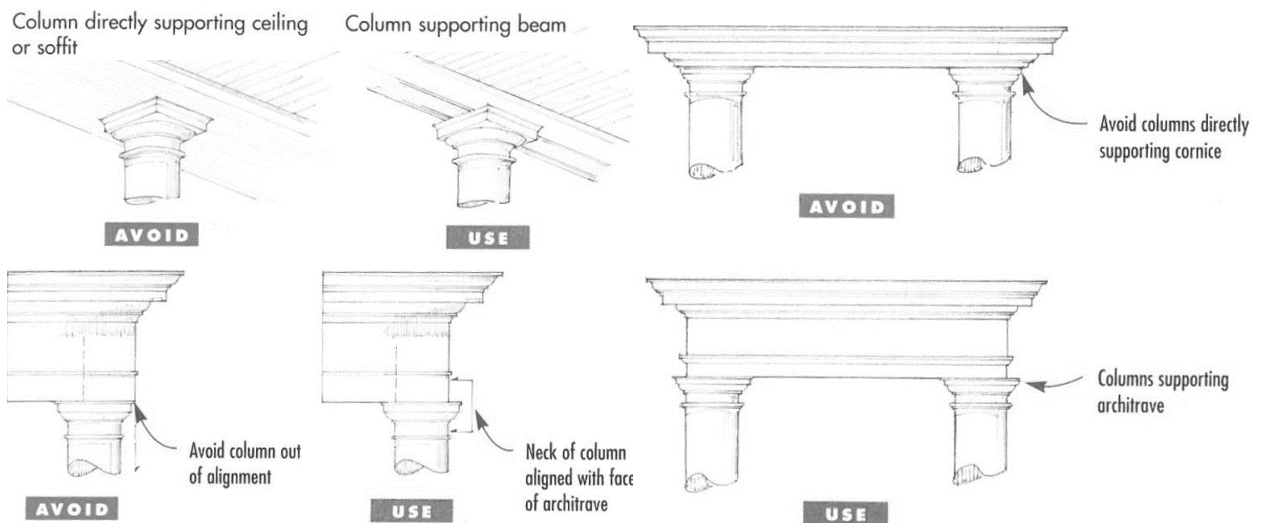

Figure 24: Column Alignment. Marianne Cusato, *Get Your House Right* (Canada: Sterling, 2007), 52, fig. 3.23.
c. Cornices shall project a minimum of six (6) inches from the building face.
2. Always support a structural spanning element, such as a beam, arch, or entablature and shall always be positioned so that the outside edge of the spanning element above aligns with the neck of the column (Figure 24).